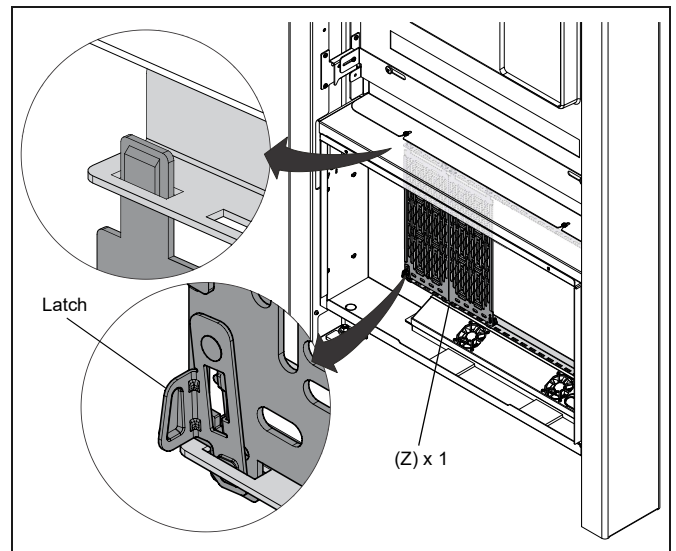

Figure 15
- Squeeze the spring-loaded latch on lower end tabs of the storage panel (Z) and slide the panel up and out of the slots on the rear frame. (See Figure 15)
- Pivot panel in and slide it down toward the slots on lower side of the rear frame panel opening. The panel will snap into the slots, securing it to the rear frame. (See Figure 15)